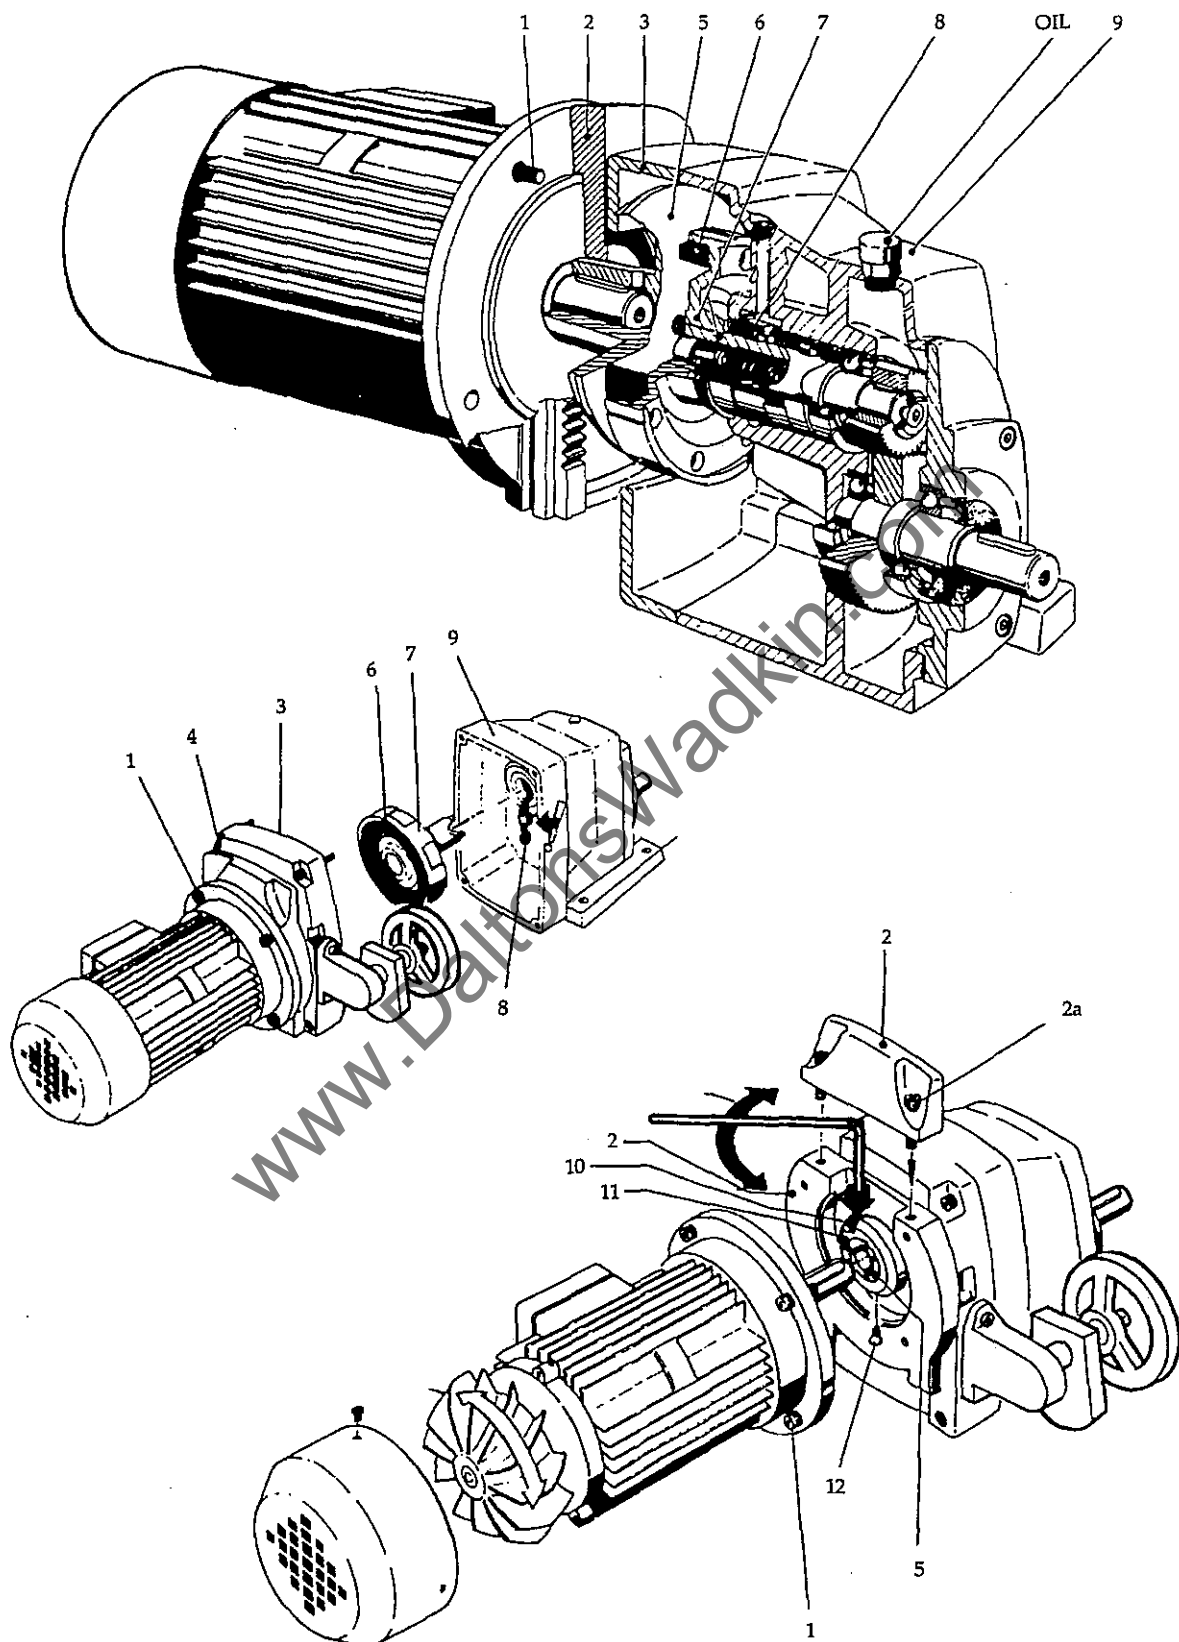

FIG 4 VARIABLE SPEED UNIT
#### Variable Speed Unit (Fig 4)
#### Attachment of motor to drive unit: (Fig 4)
#### To clean/replace the friction ring: (Figs 4, 5)
- (1) Remove the motor/split the gearbox assembly as for **Clean/Replace Friction Ring**, (Figs 4, 5).
- (2) Turn friction cone to the highest regulating position with the handwheel control. Check dimension 'a' at measuring point 'A' with a depth gauge.
- (3) Compensate for differences by turning the cone or adding shims at position indicated.